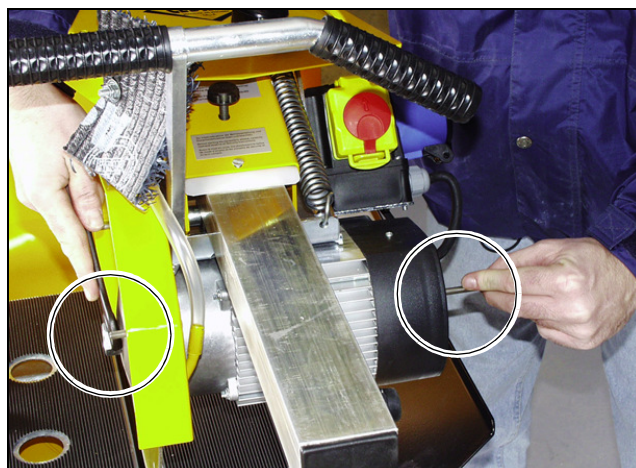

Fig. 3.22 Loosening the cutting shaft nut by counter pressure of the cutting shaft
2. Loosen the cutting shaft nut with an WS 24 open-ended spanner (lefthand thread), block the cutting shaft with the WS 6 hexagon (Allen) key from turning (Fig. 3.22).